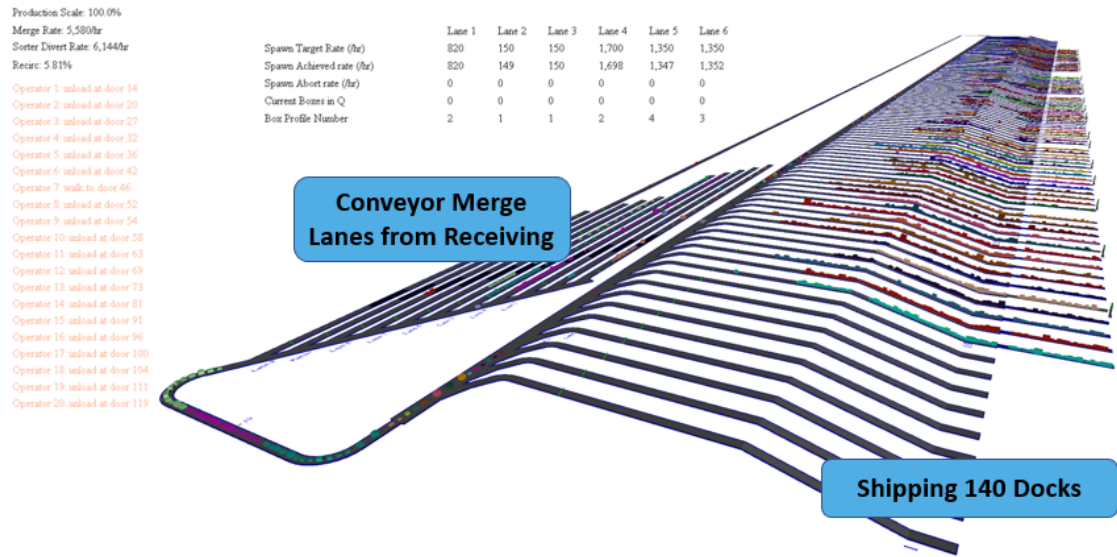

Figure 1: Model 3D view.
An overall view of the model is shown in Figure 1 on the next page. The model is built to accommodate up to ten (10) input lanes to the conveyor merge. These conveyors come from the receiving area of the facility. The flow rate and case size on each lane is configurable to represent products coming from multiple suppliers. Once a merge lane is full based on photoeye status, the lane is released to the sortation system.